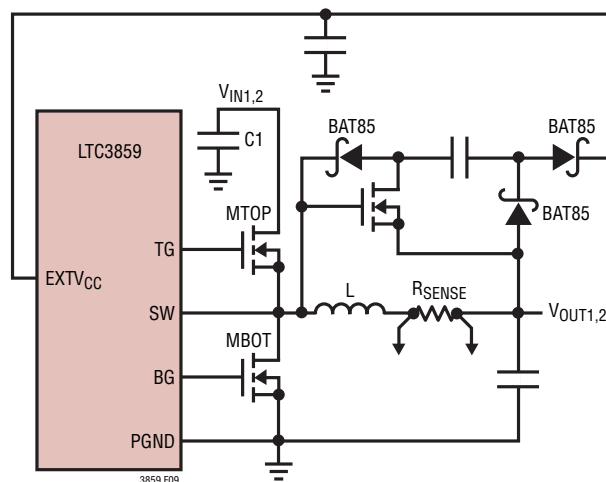

Figure 9. Capacitive Charge Pump for EXTVCC
4. EXTVCC connected to an output-derived boost network off one of the buck regulators. For 3.3V and other low voltage buck regulators, efficiency gains can still be realized by connecting EXTVCC to an output-derived voltage that has been boosted to greater than 4.7V. This can be done with the capacitive charge pump shown in Figure 9. Ensure that EXTVCC < VIN.